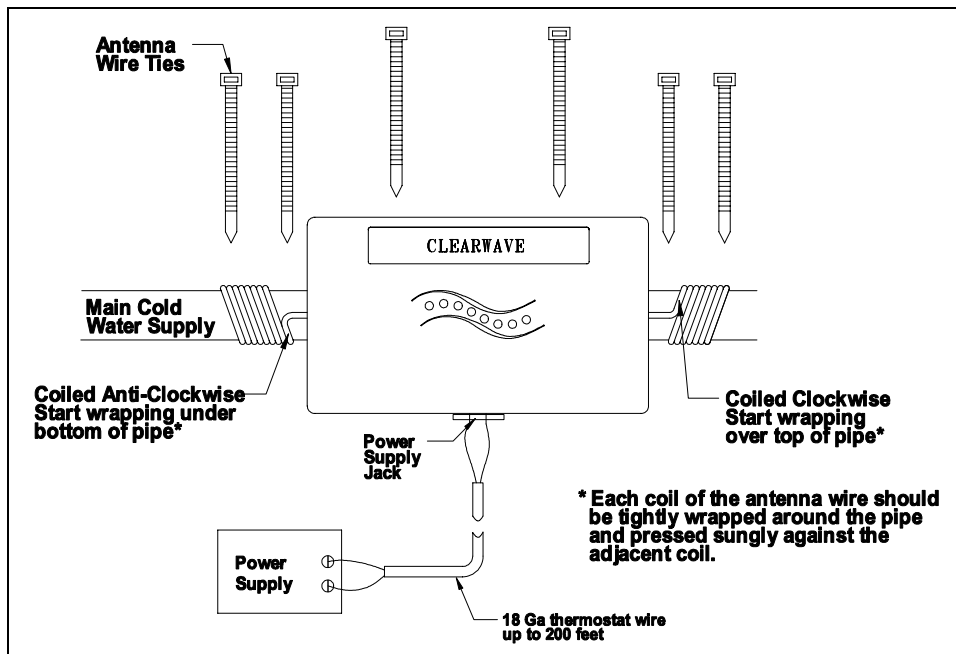
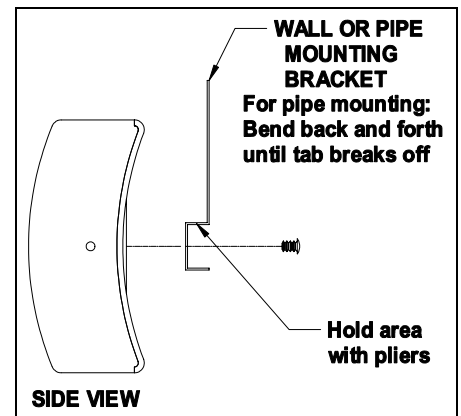
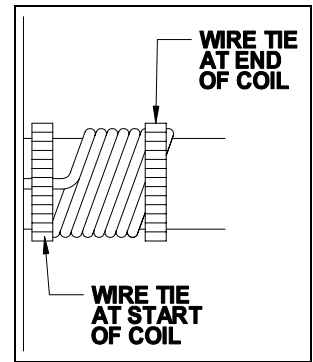

Figure 1
Figure 2
Figure 3
1. One set of mounting brackets are provided, for mounting the ClearWave™ onto 1/2" to 1-1/2" water pipes or wall mounted near the selected pipe area. Mount the mounting brackets to the base of the ClearWave™ by using the screws provided. Mount the ClearWave™ onto the pipe with wire ties or to the wall with appropriate fasteners. (see Figure 1) For pipe mounting, the wall mount tabs should be removed from the mounting brackets. (see Figure 2)
The antenna wrap around the water pipe on each end of the ClearWave™ (see Figure 1). A minimum of seven fully wrapped coils of the antenna wire, with each coil wrapped tightly against the pipe and pressed snugly against each other is required for best results (see Figure 3). The operation of the ClearWave™ and the antenna installation is not based on direction of water flow, but one antenna MUST be wrapped in a clockwise direction and the other wrapped in a anti- clockwise direction.
1. First, wrap the antenna onto the water pipe by securing the right antenna to the water pipe next to the ClearWave™ housing with a wire tie. Wrap the right antenna clockwise (over the top of the pipe first), keeping the antenna wire tight against the pipe and the preceding coil. Secure the end of the right antenna wire to the water pipe with a wire tie (see Figure 3).